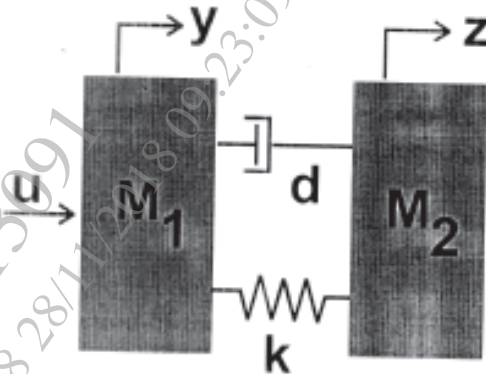

Figure 2
- Q7)** a) For the translational mechanical system in Figure 2, determine the transfer function between output Z and input u . Also, determine the location of poles from the transfer function. [10]